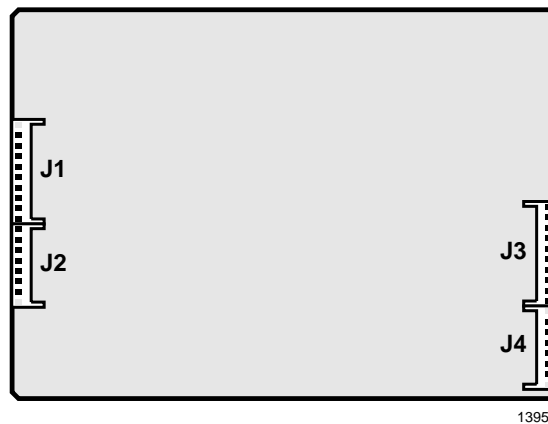

Figure 5-31 RRCS Printed Circuit Board
There are three RRCSs: the RRCS-4 has four DTMF receiver circuits; the RRCS-8 has eight receiver circuits; and the RRCS-12 has 12 receiver circuits. The RRCS is shown in Figure 5-31.
- Mate RRCS connectors J1, J2, J3, and J4 (Figure 5-31) with RCTUA connectors P2, P3, P4, P5. Apply firm, even pressure to the RRCS to ensure proper mating of the connectors.
- Mate RRCS connectors J1, J2, J3, and J4 (See Figure 5-31) with the applicable RCTU PCB. Apply firm, even pressure to the RRCS to ensure proper mating of the connectors.
1. Set the P5, P8 or P9 battery jumper on the RCTUA, BA3, C3, D3, or RCTUF3 to the “ON” position (see Figures 5-31~5-38).